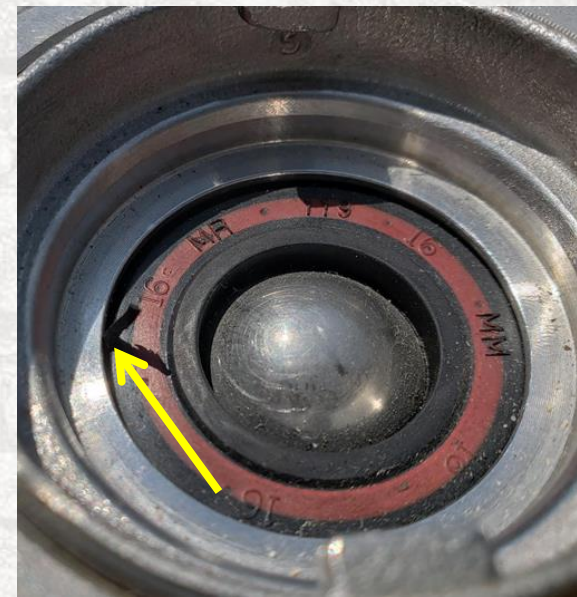

Figure 2
**Causes** – The most common are foreign objects stuck in the interface between the CO2 valve and the spear body (fig 2). These objects include dry hops, splinters & char from barrels, and scrubby pad threads & brush bristles from manual cleaning of the keg well. Sometimes overfilling, over-pressurization, or improper maintenance techniques can cause damage to the CO2 valve resulting in gas leaks also (fig 3).